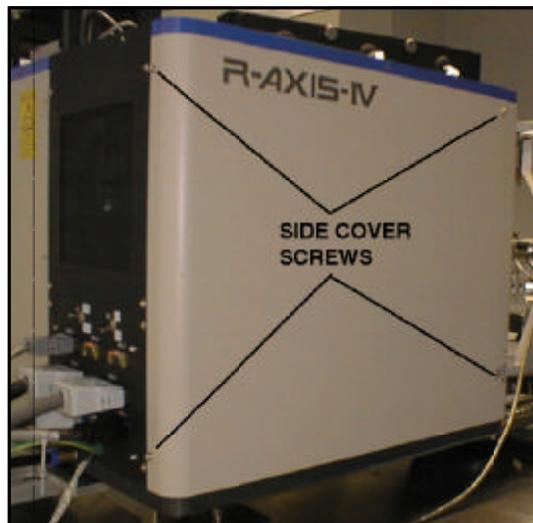

Figure 6-4. Side cover screws.
- 2) Unscrew the side cover screws indicated in Figure 6-4, and remove the side cover.